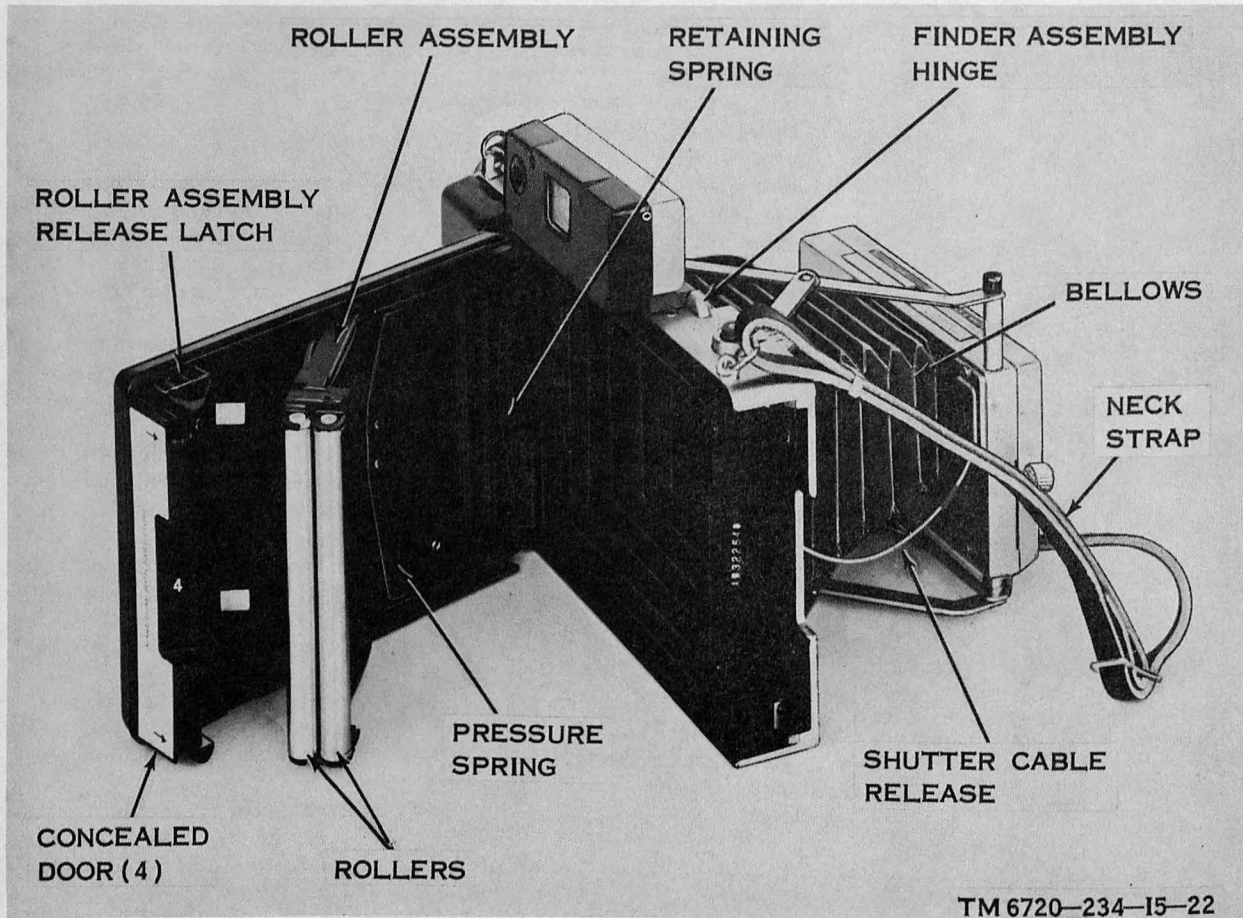

Figure 4-1. Camera, camera back cover open.
- (1) Check the camera set controls for damaged or inoperative condition.
- (2) Check the condition of the bellows (fig. 4-1). Make sure it is free of foreign matter and not frayed, torn, or creased outside the normal folds.
- (3) Check the tension on the pressure and retaining springs.
- (4) Check the surfaces of the concealed door 4 and the rollers to see that they are not bent, dented, or worn.
- (5) Check the condition of the shutter connecting cable (on the flashgun) and the shutter cable release and shutter electrical cable (on the camera); check for signs of deterioration, breaks, and worn spots.
- (6) Check the optical surfaces for any chipped, cracked, scratched, or dirty condition.